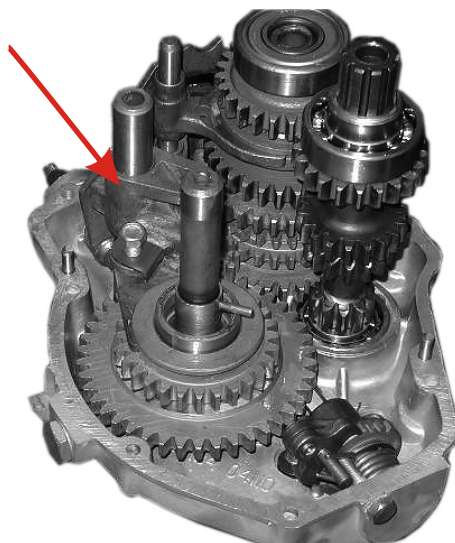

Fig. 53
- Having the reverse gear quadrant pressed out insert the bracket shaft into the cover hole (Fig. 53)